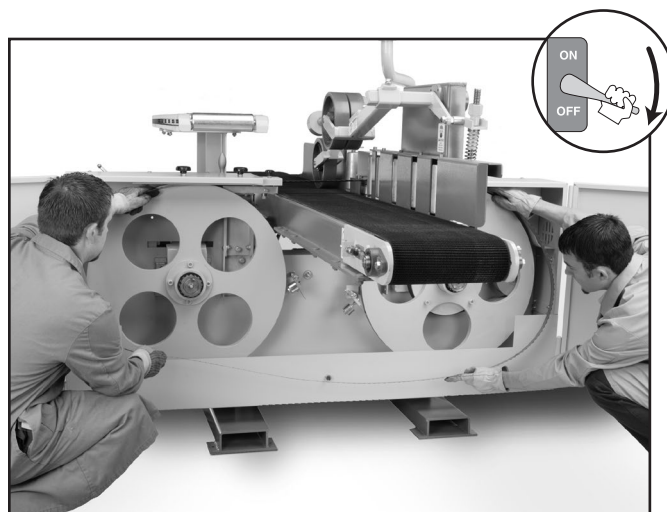

Figure 19. Positioning blade for installation.
4. Hold the blade from each side, and position it in front of the wheels so the blade teeth are facing the front of the machine, as shown in **Figure 19**.